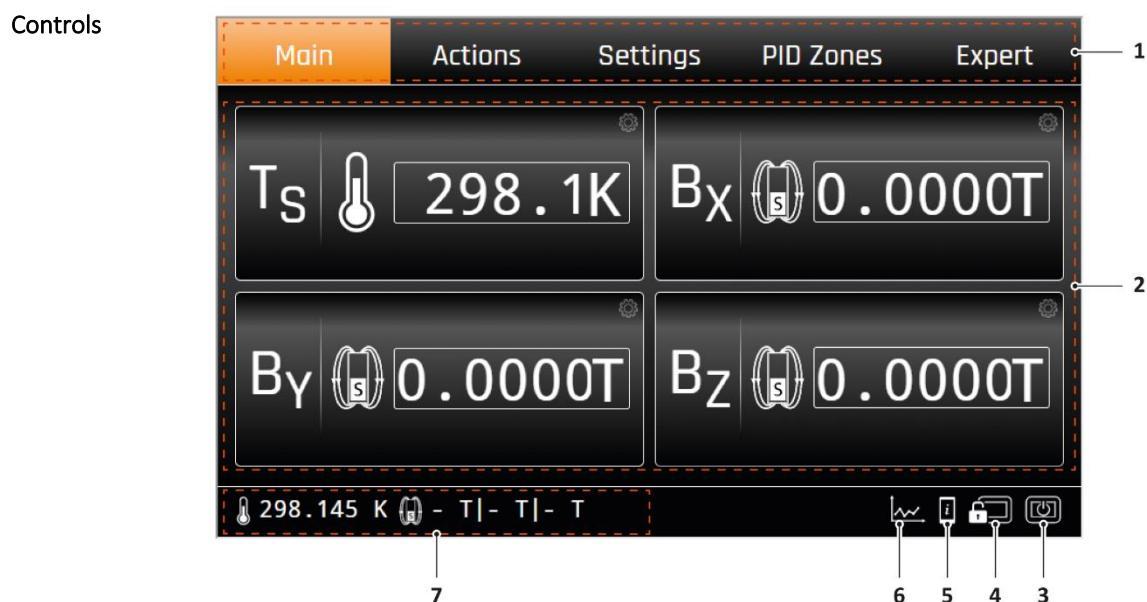

Figure 23 Touch panel screen sections
- Access** The "General Information" overlay can be accessed from every page by tapping the information button (Figure 23/5).
Access The "Plot Data" overlay can be accessed from every page by tapping the live plotting button (Figure 23/6).